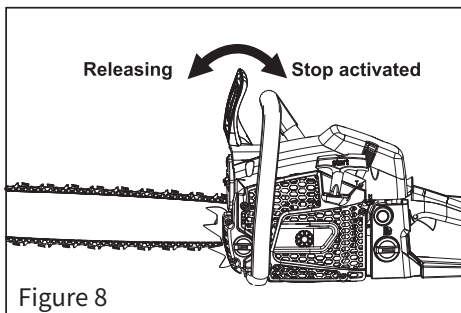

Figure 8
- To resume operation, ensure the engine is switched off and cooled down, then pull the brake lever (shield) upward and backward until it clicks and locks into its original position (see Figure 8).